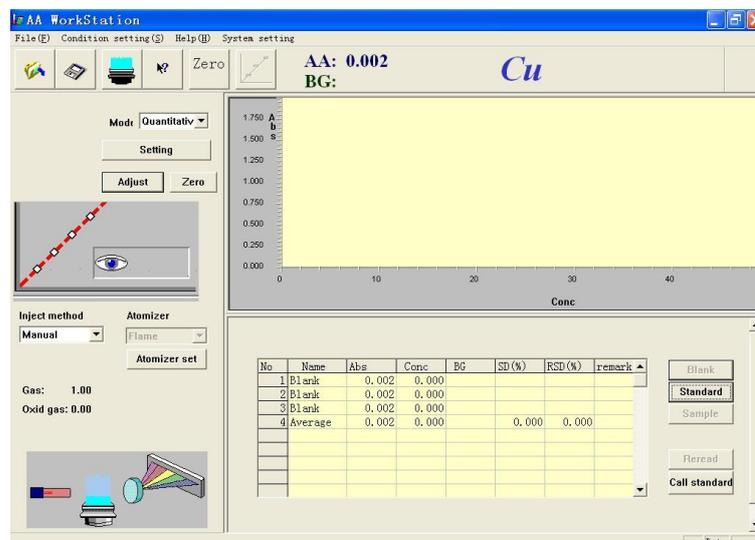

Figure 5-26
- Start testing an unknown sample. Spray and suck the unknown sample. Press "Unknown sample", and the screen will be shown as that in Figure 5-26.